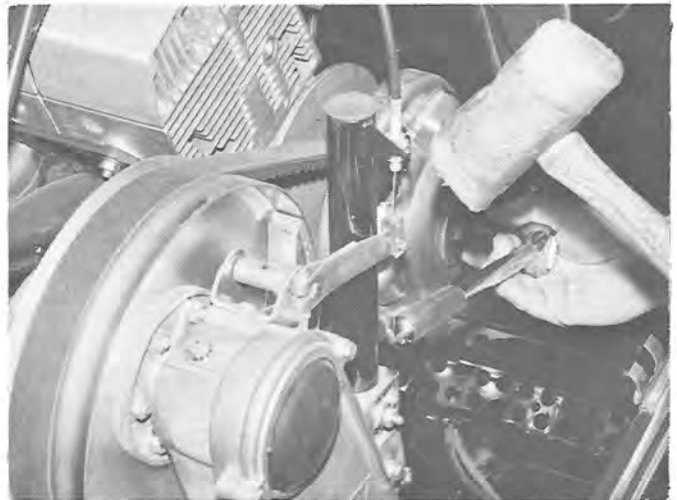

FIG 4-2
2. Remove clutch attaching bolt and bell retaining bolt. Use impact wrench capable of 75 or more ft. lbs. torque (In the field alternate method may be used.) Making sure ignition is off, run engine up on compression using  $\frac{3}{4}$ " socket and ratchet. Strike ratchet with plastic or rubber mallet. (See Figure 4-2.)